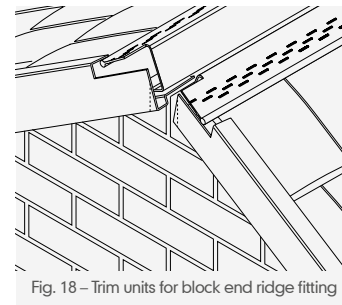

Fig. 18 – Trim units for block end ridge fitting
- 3 When using a bedded ridge and/or block end ridge tile, the verge extrusion will need to be cut away to accommodate the internal rib of the tile and provide a close fit to the outer face of the verge extrusion (Fig. 18).